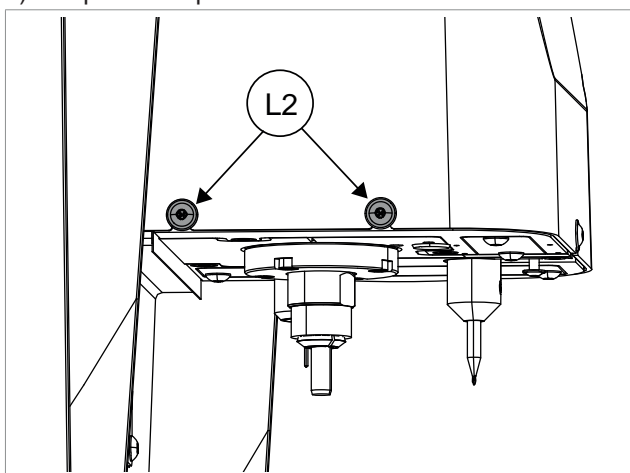
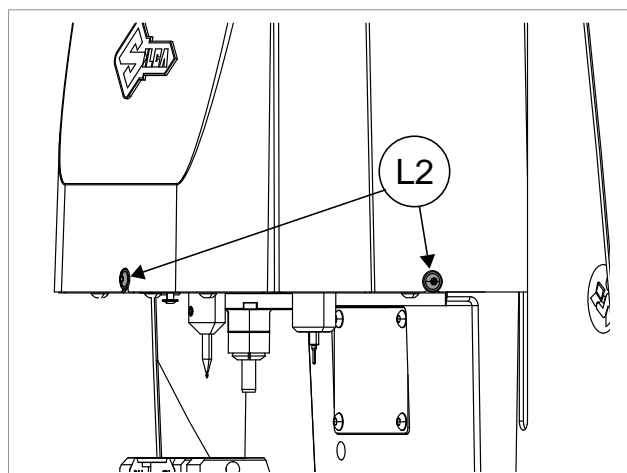

Fig. 88
Fig. 89
- 2) Remove the rear cover (E) (chap.16.1.1).
- 3) Remove the protective screen (C) (chap.16.1.2).
- 4) Loosen the screws (L2), (Fig. 88 and Fig. 89) and remove the cover (L1) upwards.